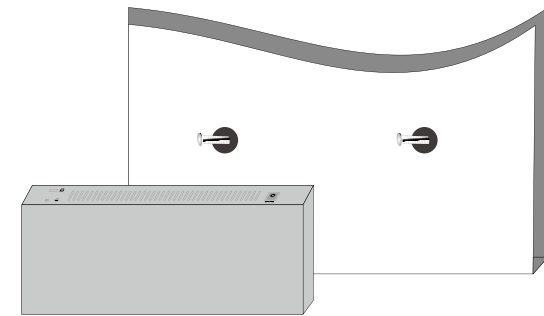

Figure 2-3 Wall Installation
Step 1: Punch 2 holes with a diameter of 5mm on the wall. The distance between the 2 holes is 110mm, and the line through them should keep horizontal, as illustrated in Figure 2-3;